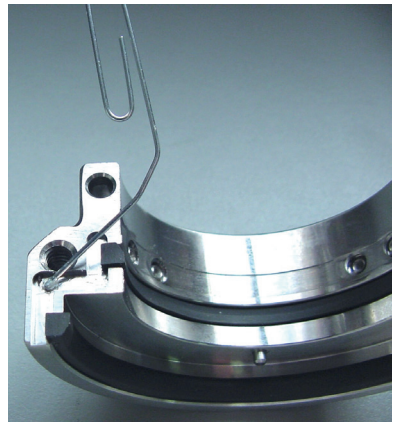

Figure 13
- 4.3 Put one dot of adhesive near the outer corner. See Figure 13.